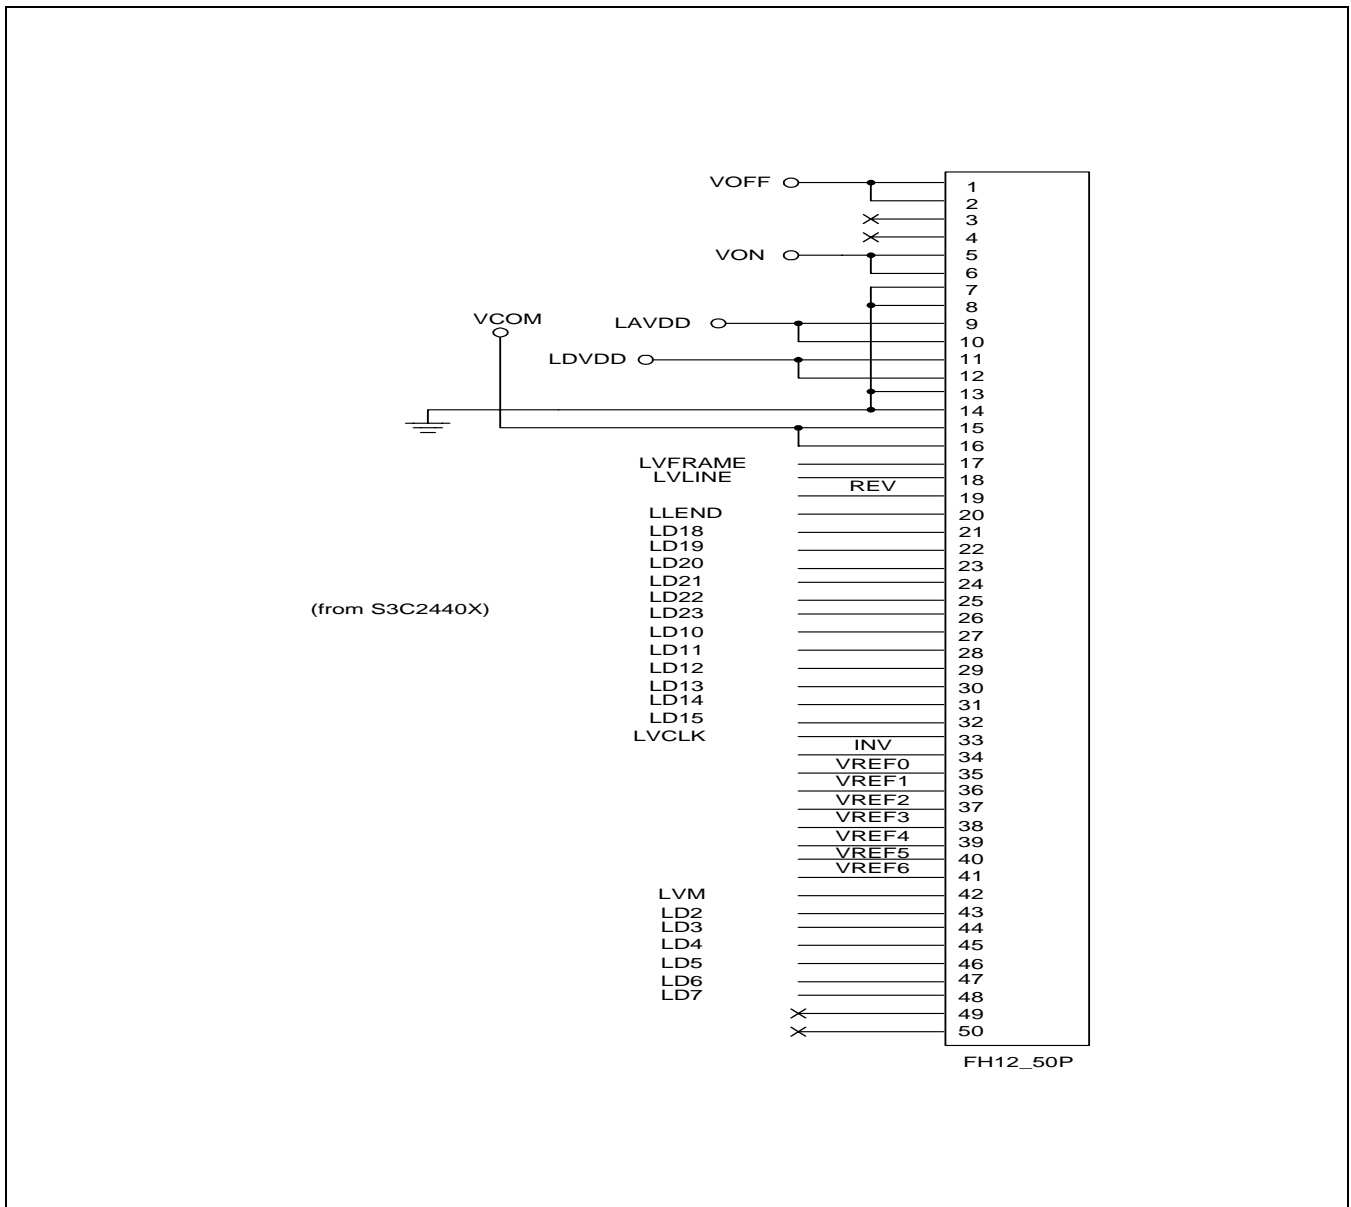

Figure 4-18. LTS350Q1-PE1 Connection with S3C2440A (Samsung 3.5" Transflective TFT LCD)
- LP104V2-W (262,144 color TFT LCD, 10.4") from LG Philips (refer to Figure 4-18)